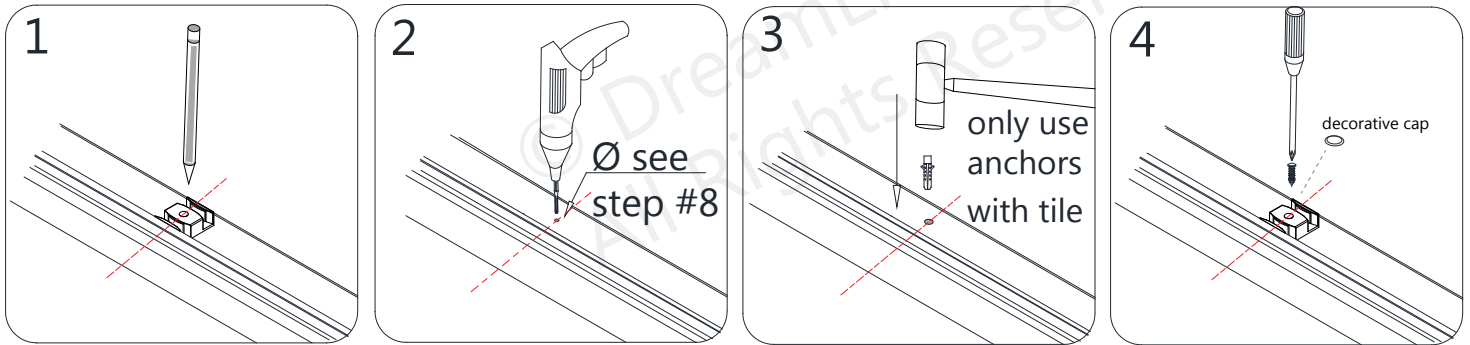

**Fig 7**
**7.** Measure across the width of the threshold to locate and mark the center. **(Fig 7)**